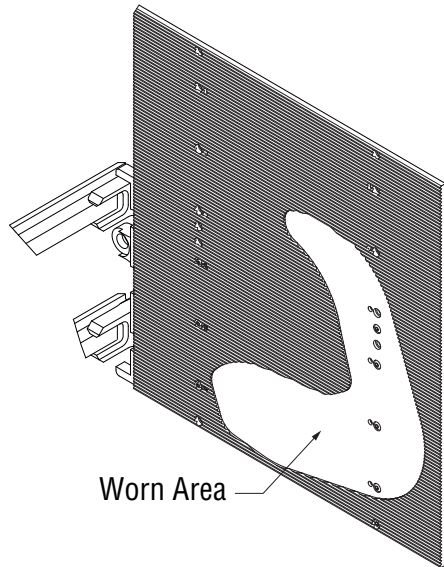

Figure 5-20, Contact Pad Wear
1. As the contact pads wear it may be necessary to rotate or replace them. Pad surfaces may wear unevenly, depending on the distribution of weight in the loads (Figure 5-20). Not all pads are designed to be rotated.